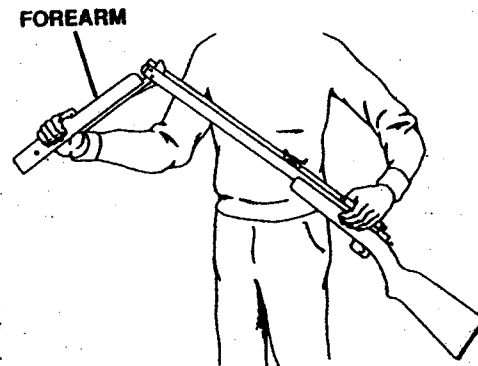

FIG. 3
- B. Open the forearm all the way until it stops. (Fig. 3)